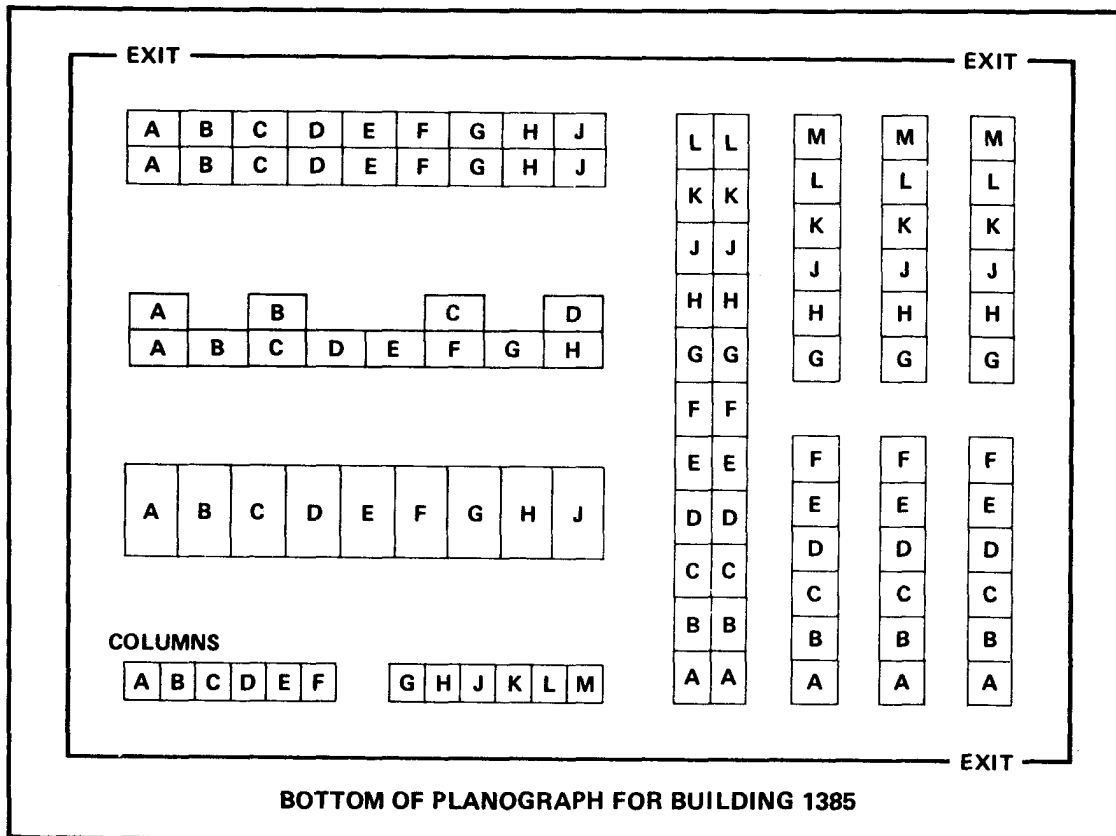
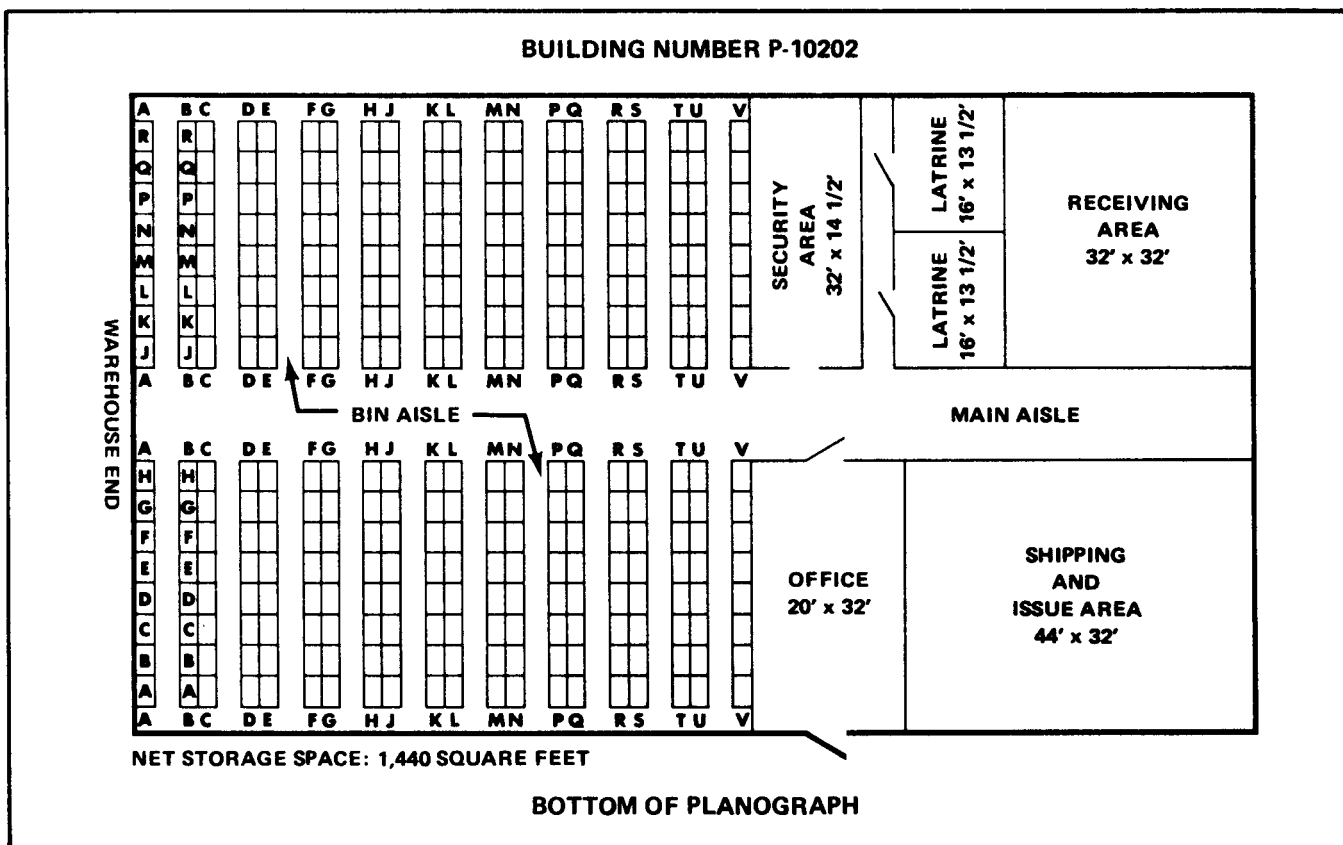

Figure 6-2. Planograph with columns labeled
Figure 6-3. Planograph with columns and rows labeled
- *Step 4.* Label the columns (or bins) of the rows. (The columns are the sections of the rows that start at the floor and go toward the ceiling.) Label the columns the same way you labeled the rows—from bottom to top and from left to right. Figure 6-2 shows how to label columns. Figure 6-3 shows a planograph with rows and columns labeled correctly.